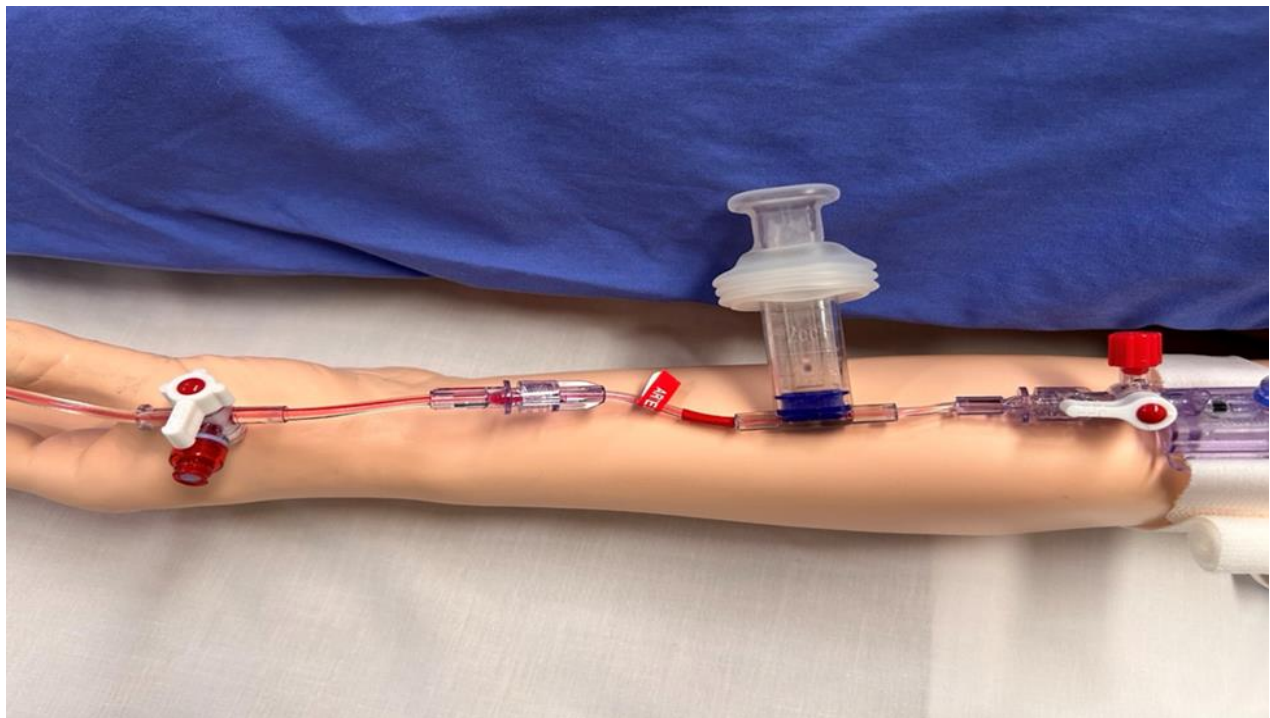

Figure 11.
7. Now you can push the blood slowly from the plunger and return to the patient. Smoothly and evenly over 3-5 seconds, push down on the plunger until the flexures lock in place in the fully closed position and all the fluid has been reinfused into the line. (See Figure 11 below)